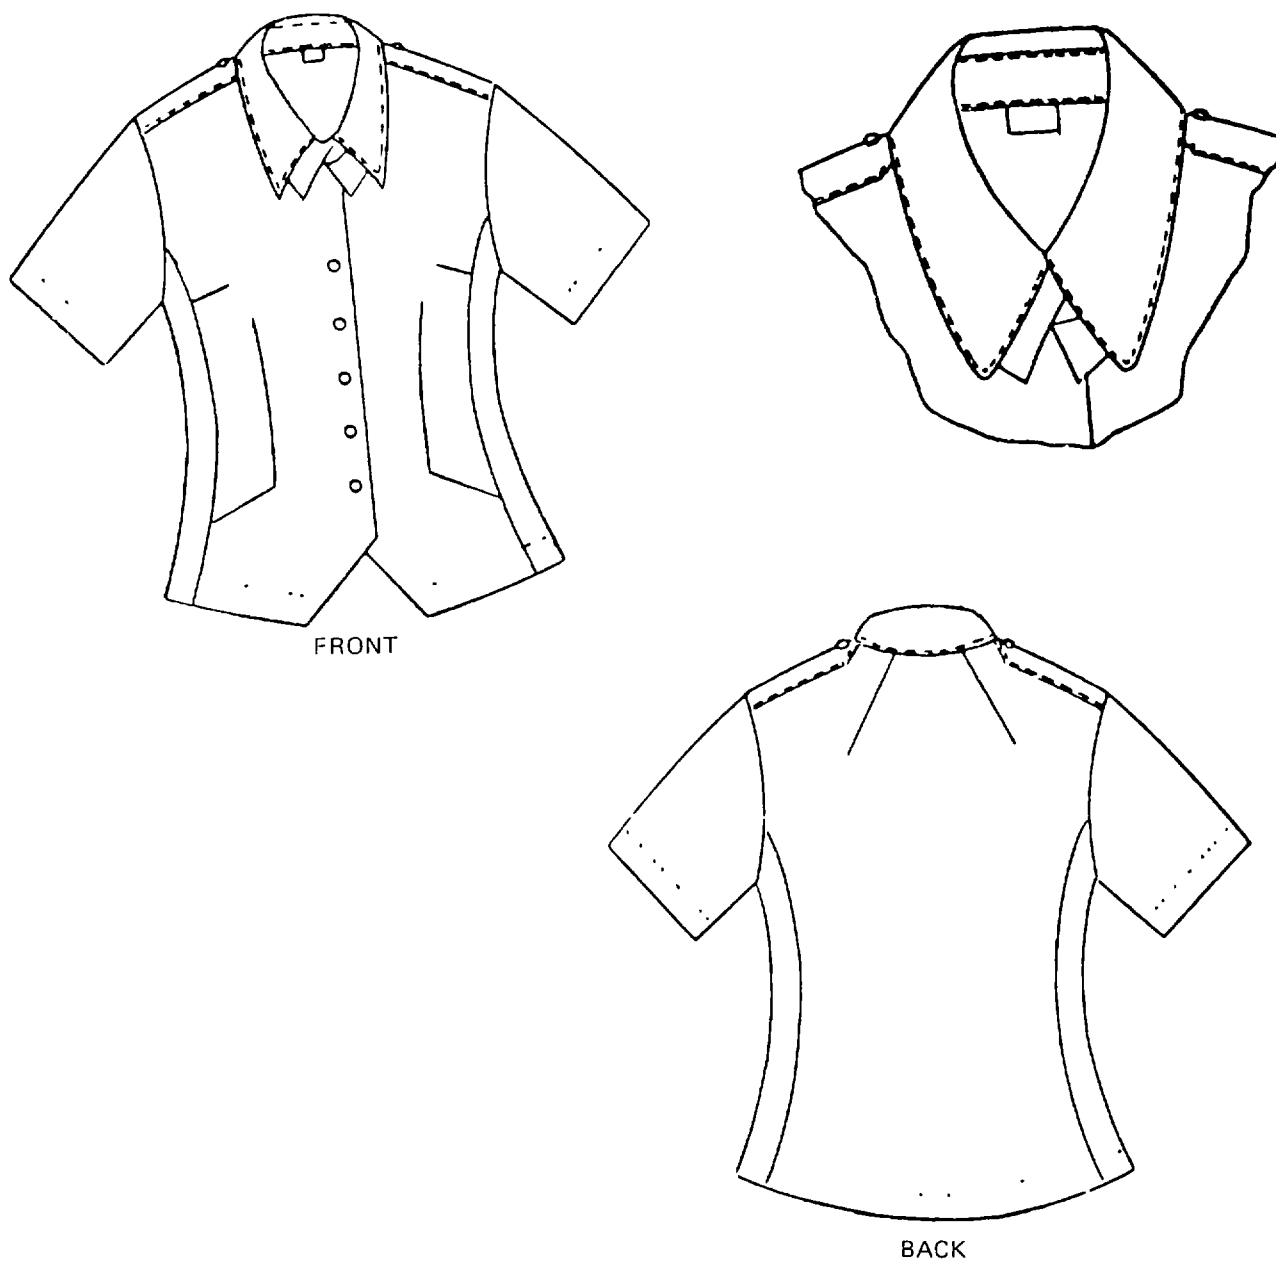

Figure 19-3. Women's Short Sleeve Shirt, Army Green 415.
- c. Shirt Woman's, Short Sleeve, Polyester/Cotton Army Green 415, Durable Press. The shirts are fabricated from polyester/cotton broadcloth, Army Green 415, conforming to MIL-C-43992. The shirt is a semi-fitted hip length overblouse style with a short sleeve, shoulder loop, convertible collar, 6 Button cut away front, side body, and darts at waist, bust and back neck. Each shirt has a black detachable neck band and tab that fastens to the front underneath the collar. The necktab comes in two sizes, one for the shirt sizes 6-12 and one for sizes 14-20. (See figure 19-3 and table 19-2.)